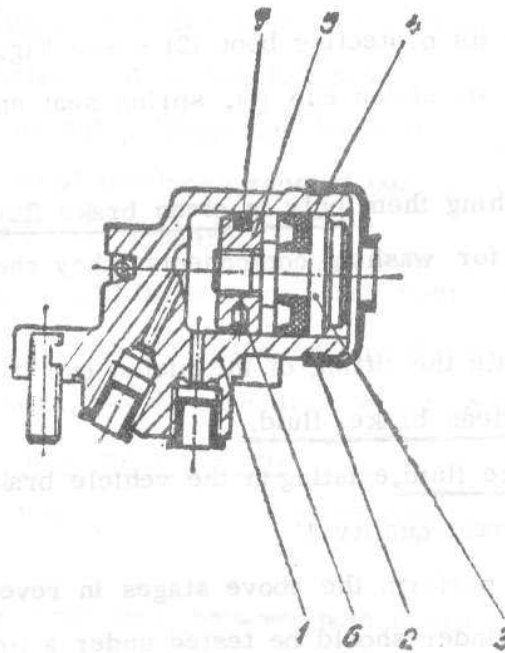

Fig. 4.122. FRONT WHEEL BRAKE CYLINDER
- Remove from brake cylinder its protecting boot (2) - see Fig. 4.122 - then, successively, brake piston (3), piston cup (4), spring seat and brake cylinder spring.